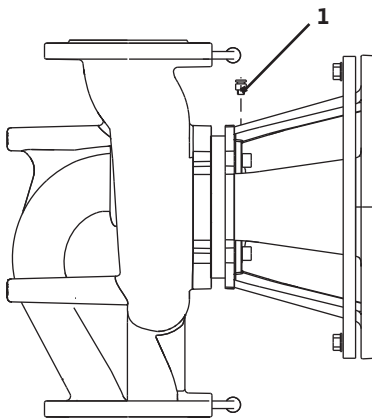

Fig. 17: Bleed valve
- The bleed valve (Fig. 17, Item 1) must always face upwards.